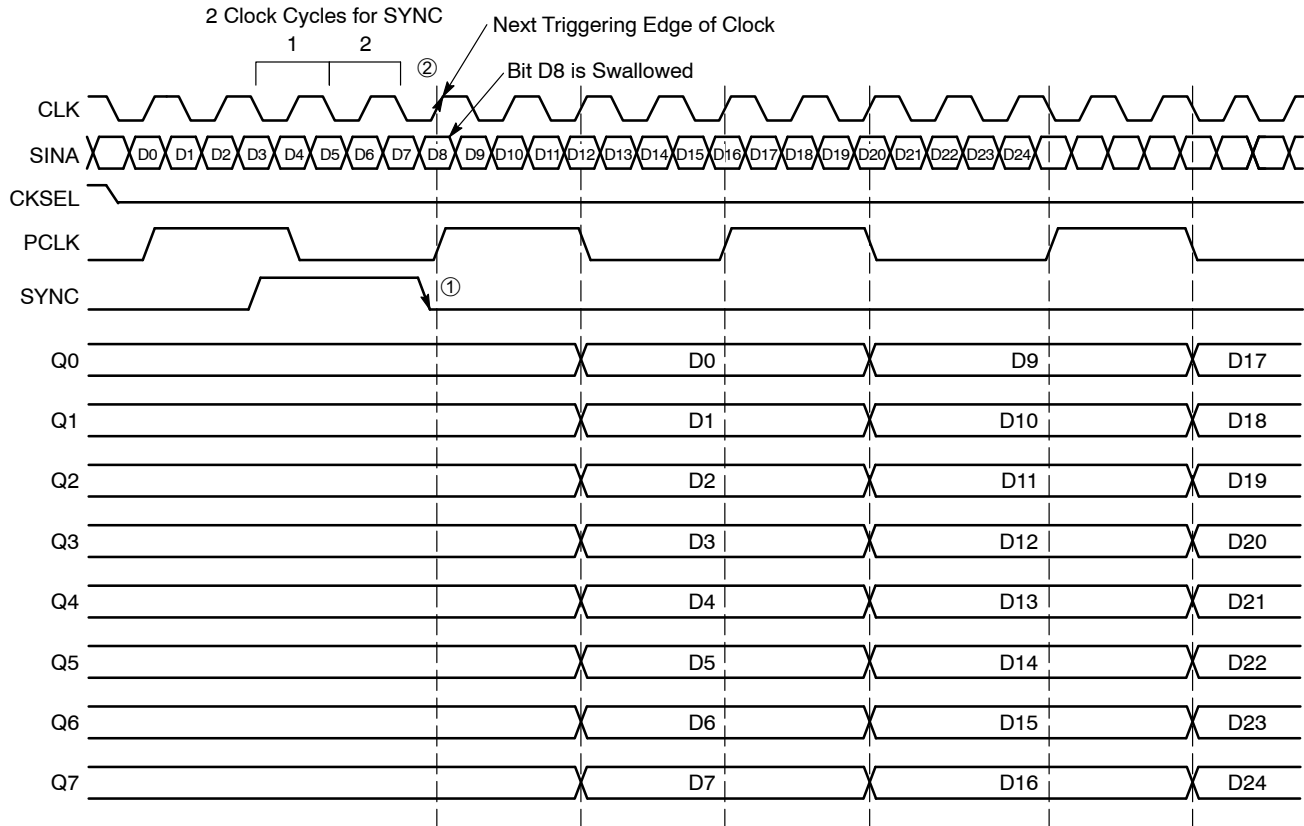
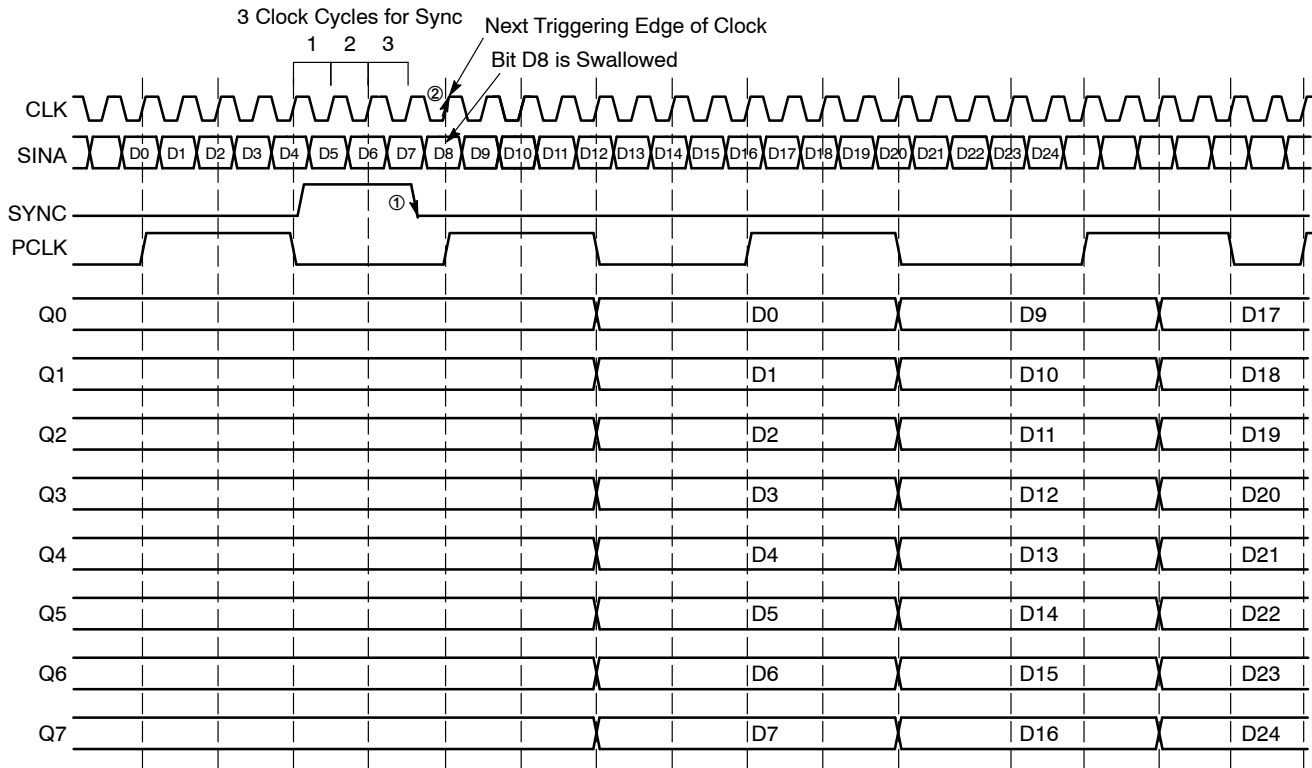

Figure 10. Timing Diagram A. 1:8 Serial to Parallel Conversion with SYNC Pulse at CKSEL LOW
Figure 11. Timing Diagram A. 1:8 Serial to Parallel Conversion with SYNC Pulse at CKSEL HIGH
To allow the user to synchronize the output byte data correctly, the start bit for conversion can be moved using the SYNC input pin (pin 2). Asynchronously asserting the SYNC pin will force the internal clock to swallow a clock pulse, effectively shifting a bit from the Q_n to the Q_{n-1} output as shown in Figure 10 and Figure 11. For CKSEL LOW, a single pulse applied asynchronously for two consecutive
clock cycles shifts the start bit for conversion from Q_n to Q_{n-1} . The bit is swallowed following the two clock cycle pulse width of SYNC^① on the next triggering edge of clock^② (either on the rising or the falling edge of the clock). Each additional shift requires an additional pulse to be applied to the SYNC pin. (See Figure 10)
triggering edge of clock^② (on the rising edge of the clock only). Each additional shift requires an additional pulse to be applied to the SYNC pin. (See Figure 11)